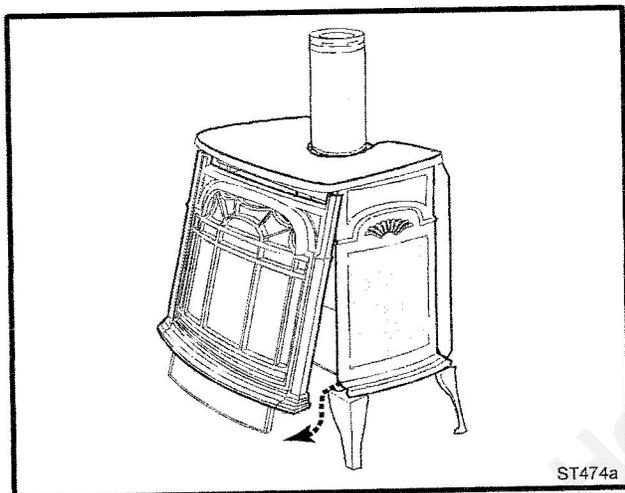

Fig. 43 Remove stove front.
1. Remove stove front. Lift stove front up and then swing bottom out and away to disengage from the stove body. (Fig. 43)